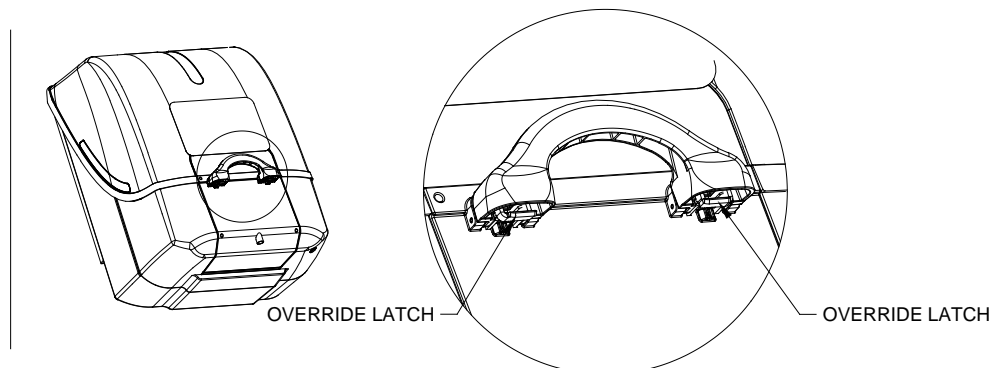

Figure 15
2. To inspect Nozzle Assembly, open Tray Assembly utilizing Supervisory Override Latch. Override Latches are located on underside of handle (Ref Figure 15). Both latches must be depressed to allow tray to open. **Note:** The only way to open Tray Assembly without breaking easy Break Security Tag and activating Fluid Cartridge is to use the override latch.